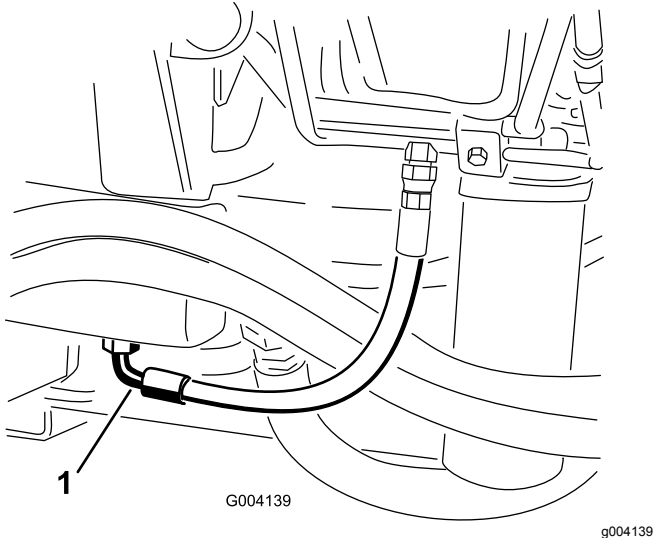

Figure 87
2. Place a large drain pan under the fitting secured to the bottom of the hydraulic-fluid reservoir (Figure 87).